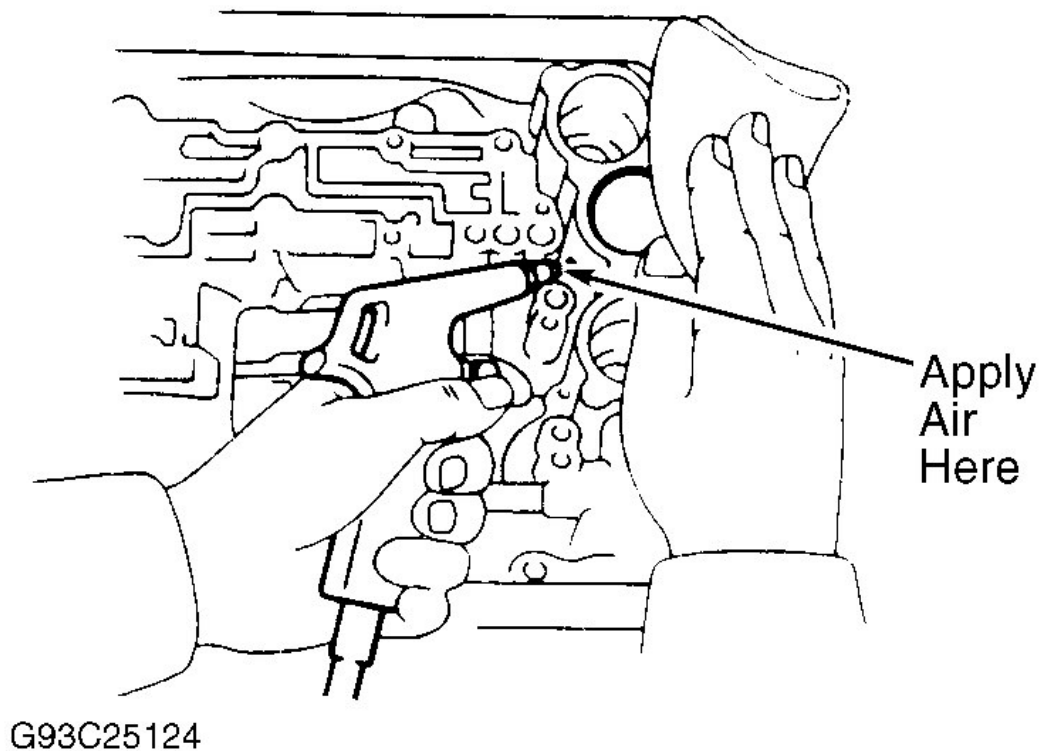

Fig. 11: Removing Accumulator Piston & Spring
6. Loosen 5 bolts one turn at a time until spring tension is released. Remove cover and gasket. Remove piston and spring for forward clutch and direct clutch. Using 15 psi (1 kg/cm²) of air pressure in apply hole, pop out 2nd brake piston into a shop cloth. Remove piston and spring. See **Fig. 11**.